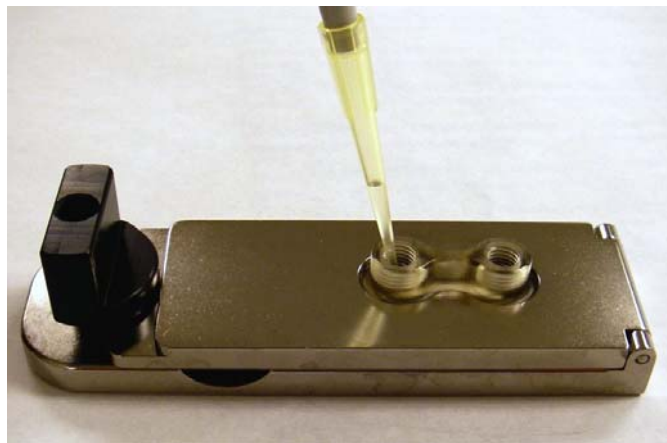

Figure 3. Pipetting of solutions into the assembled CustomArray™ Stripping Clamp.
7. Close the CustomArray™ Stripping Clamp and turn the knob clockwise to apply pressure and secure the Stripping Cap. To fill up the stripping chamber, place the Stripping Clamp horizontally and use the solution portals as shown in Figure 3.